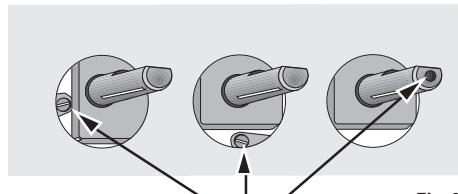

Fig. 3
- With a thin screwdriver, adjust the by-pass screw (Fig. 3). If changing from natural gas to LPG, completely tighten clockwise the screw, until a small regular flame is obtained.